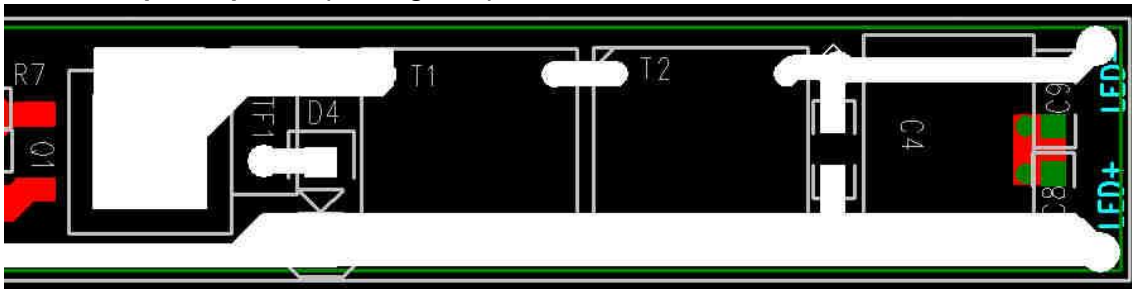

Figure 5 – Output Loop Areas
- 9.6. Minimize output loop areas (See Figure 5) to reduce EMI.